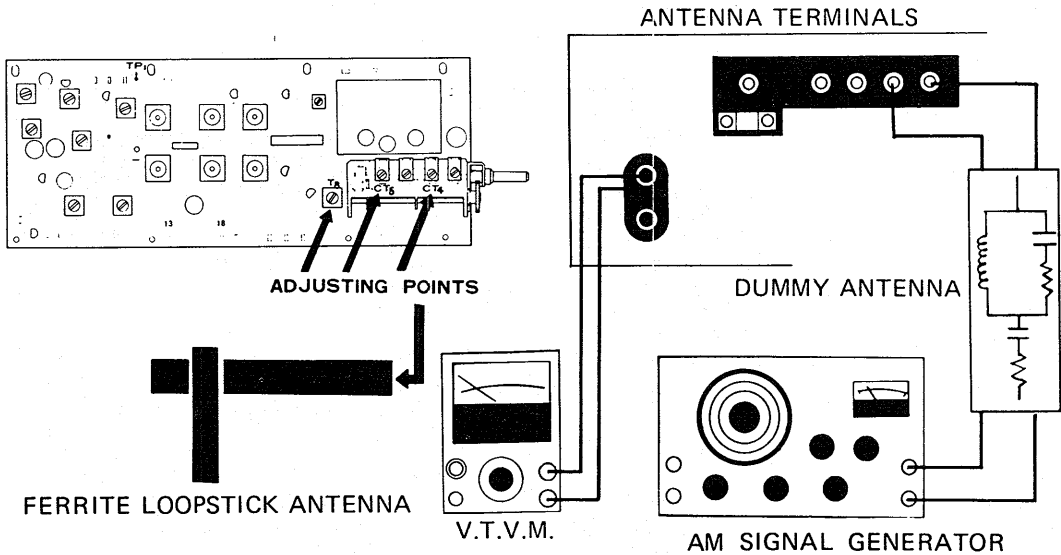

Fig. 11
- b) Connect the AM signal generator to the AM antenna terminal (Fig. 11).